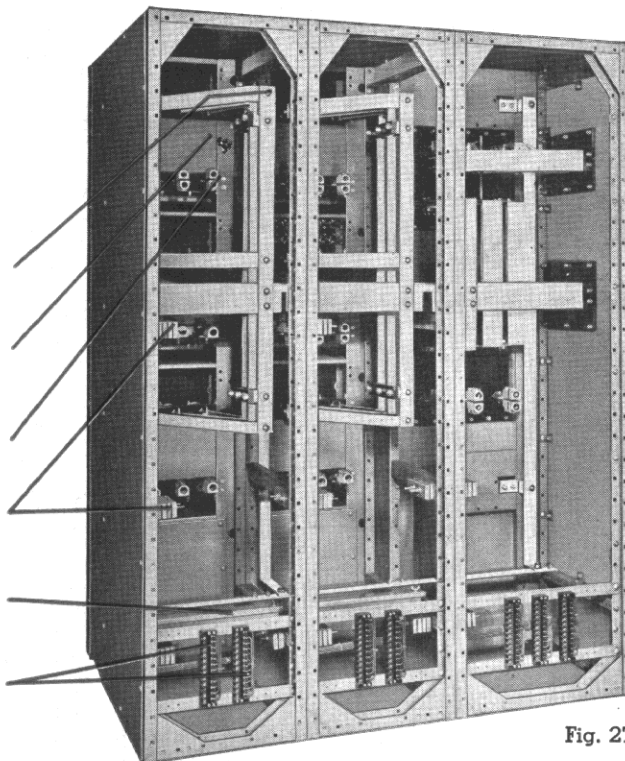
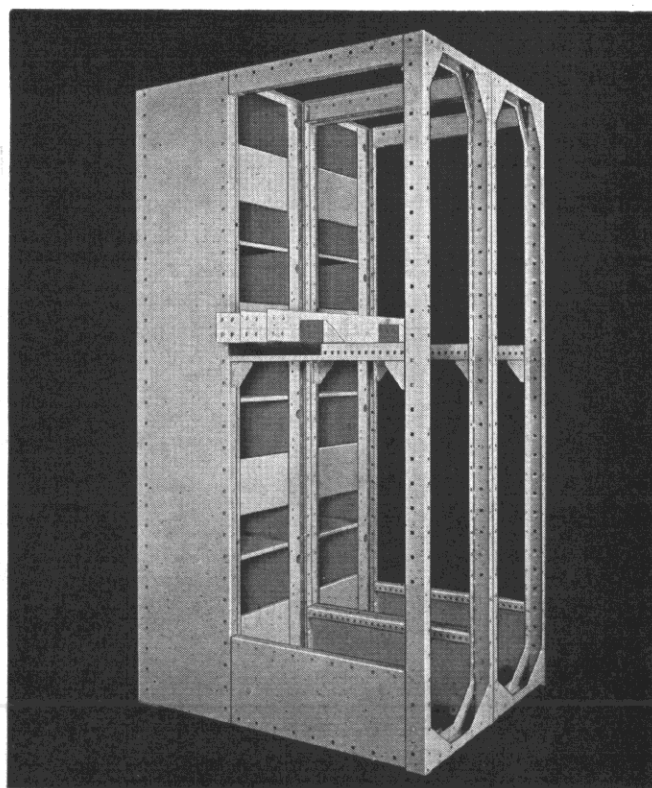

Fig. 27
Fig. 37—Assembly of standard parts for two units, each suitable for four 15,000 or 25,000-ampere interrupting capacity circuit breakers.
Standard switchgear housings for all sizes of low-voltage air breakers must be suitable for line assembly in any desired combination. It must be possible to locate busses and arrange cables as the circuits and breaker positions require. This has been accomplished by building up each breaker unit from the eight following parts: (1) the breaker cell structure, (2) a rear frame, (3) bottom members, (4) top members, (5) bus support member, (6) top cover, (7) upper half rear cover, and (8) lower half rear cover. The first five parts are marked and illustrated in Figure 36. An assembly of two units, each suitable for four 15,000 or 25,000-ampere interrupting-capacity circuit breakers, is shown in Figure 37. A completed and equipped structure appears in Figure 27 on page 11.